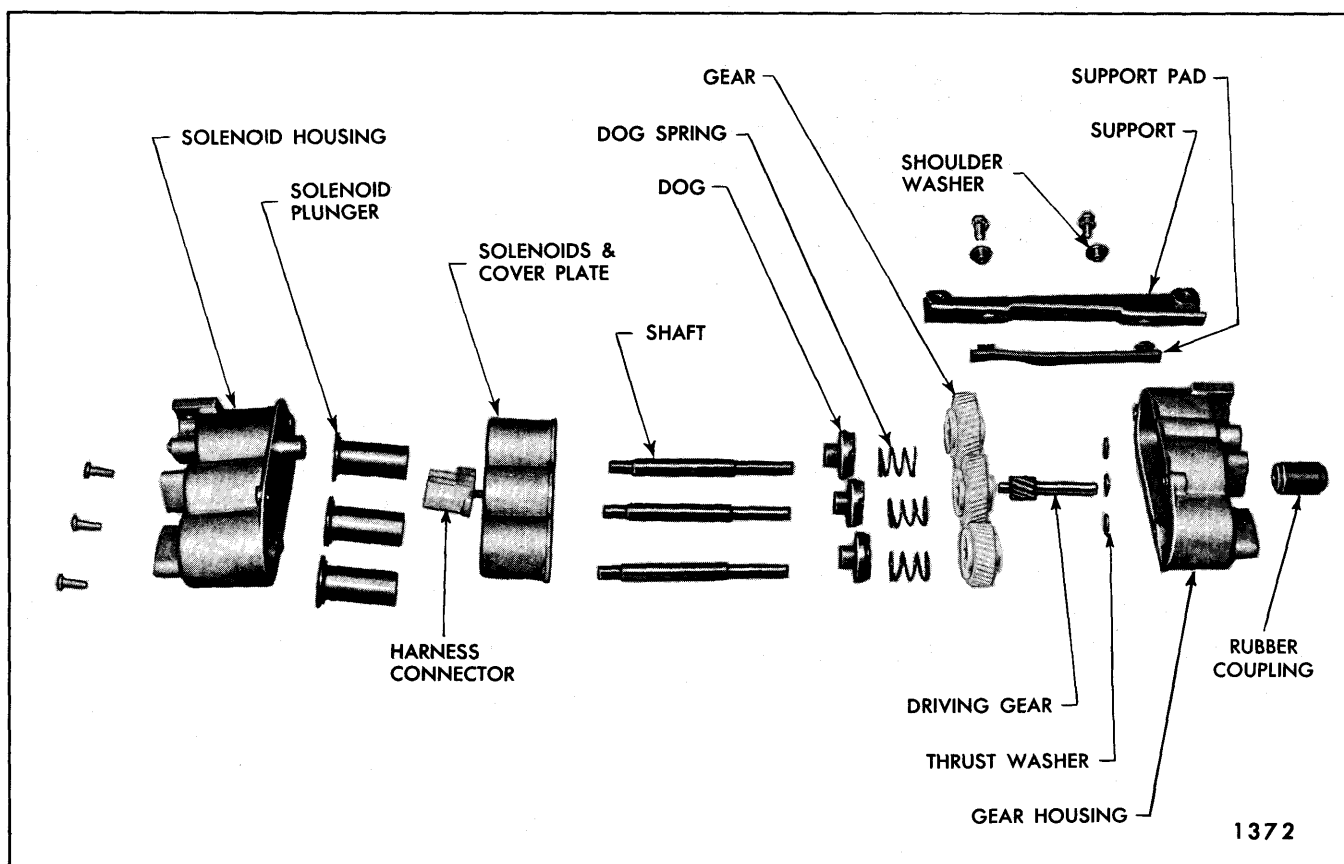

Fig. 15-17—Six-Way Seat Adjuster Transmission - "B & C" Styles
2. Remove screws securing rear gear housing to the solenoid housing; then, carefully separate housings and remove component parts of transmission assembly (Fig. 15-17).